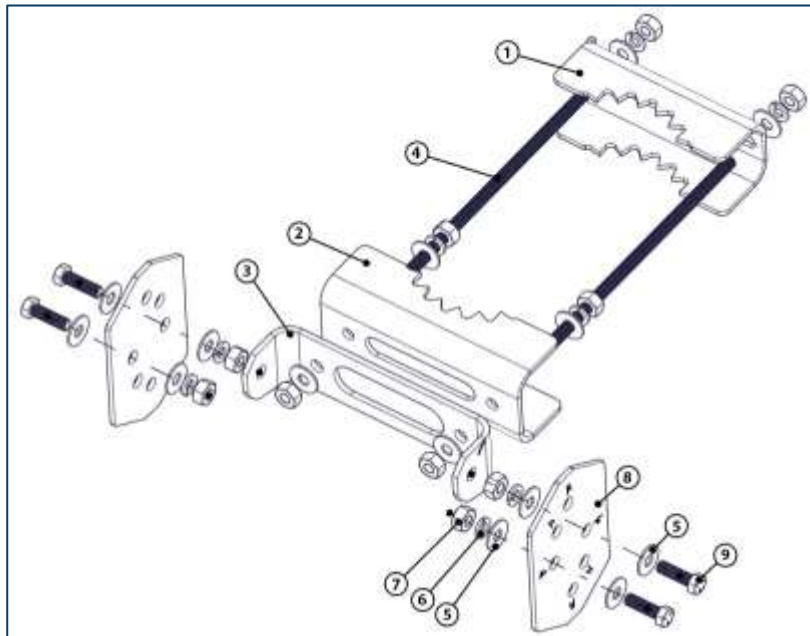

Figure 1: Bottom mount
NOTE: These item numbers refer to Figures 1 and 2 on pages 4 and 5.
1. Install bottom mount pieces—back grip bracket 1, anti-rotation bracket 2, single mount adapter 3, and bottom bracket 8—onto antenna as shown in *Figure 1* using threaded rods 4 and the following 3/8" hardware: 5, 6, 7, and 9.
6. Attach the antenna to the pole by placing the anti-rotation bracket 2 against the pole and sliding back grip 1 onto the back of the pole. Repeat attachment for each mount bracket. See *Figures 1, 2, and 3*.